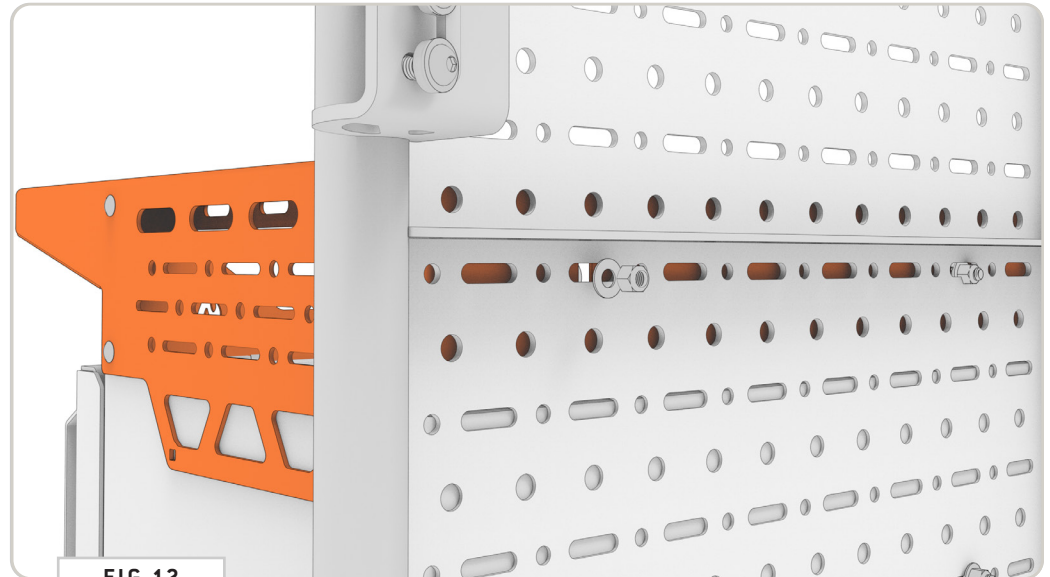

FIG 12
3.6 Loosely Secure Bike Mount Adapter to Platform (Optional): Reaching around the platform, attach (1ea) 3/8" Flat Washers to the bolts and loosely thread on (1ea) 3/8" Nylon Lock Nuts (FIG 12).